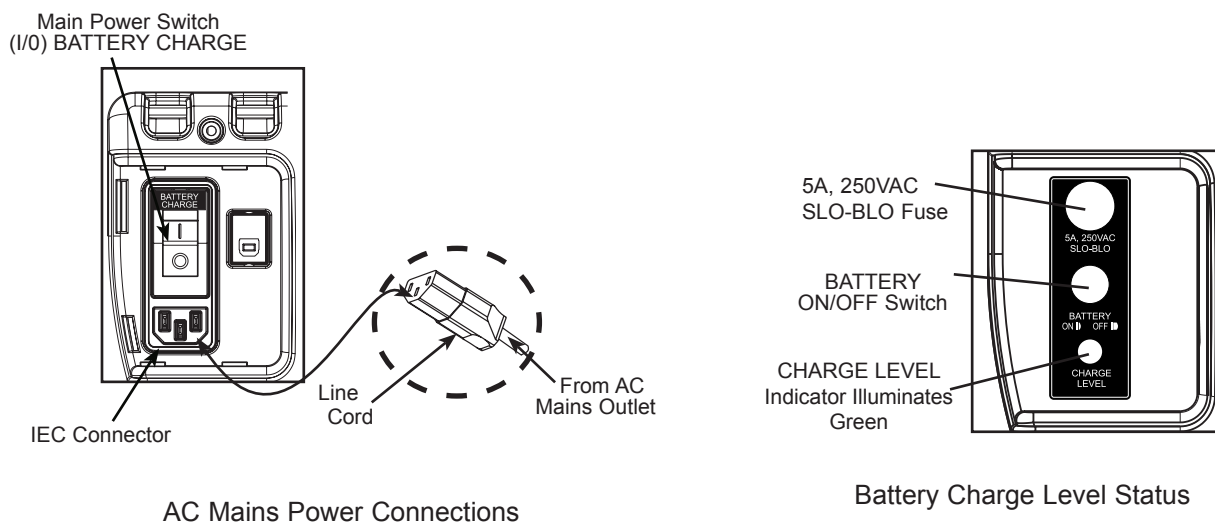

Figure 6. ScanX Battery Charging Connections and Charge Level Status
The internal battery must always be charged prior to using. To reach the full operational power level, charge for at least 3 hours before using for the first time and on subsequent uses. Refer to figure 6 and charge the battery by performing the following steps.
1. Connect the AC Mains line cord as shown by Figure 6.
2. Place the Main Power switch to the ON (I) position and make sure that the BATTERY ON/OFF switch is set to the OFF position.
4. Place the Main Power switch to the OFF (O) position and disconnect the AC Mains line cord.